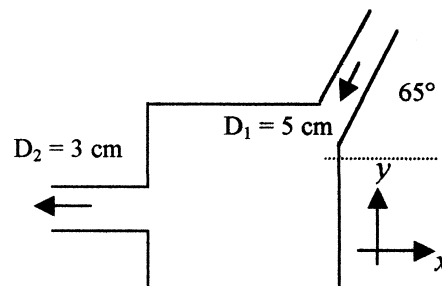

Fig. P3.56
**3.56** Water at 20°C flows steadily through the box in Fig. P3.56, entering station (1) at 2 m/s. Calculate the (a) horizontal; and (b) vertical forces required to hold the box stationary against the flow momentum.